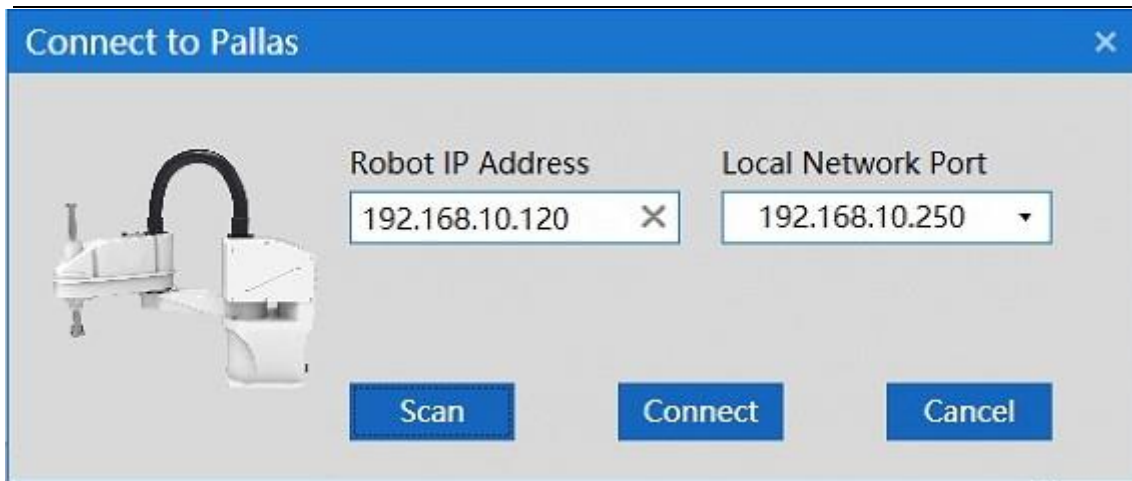

Figure 6-14 IP connection
Step 3 The IP address of the robot: 192.168.10.120, then click <Connect>the button below,as shown in Figure 6-14.